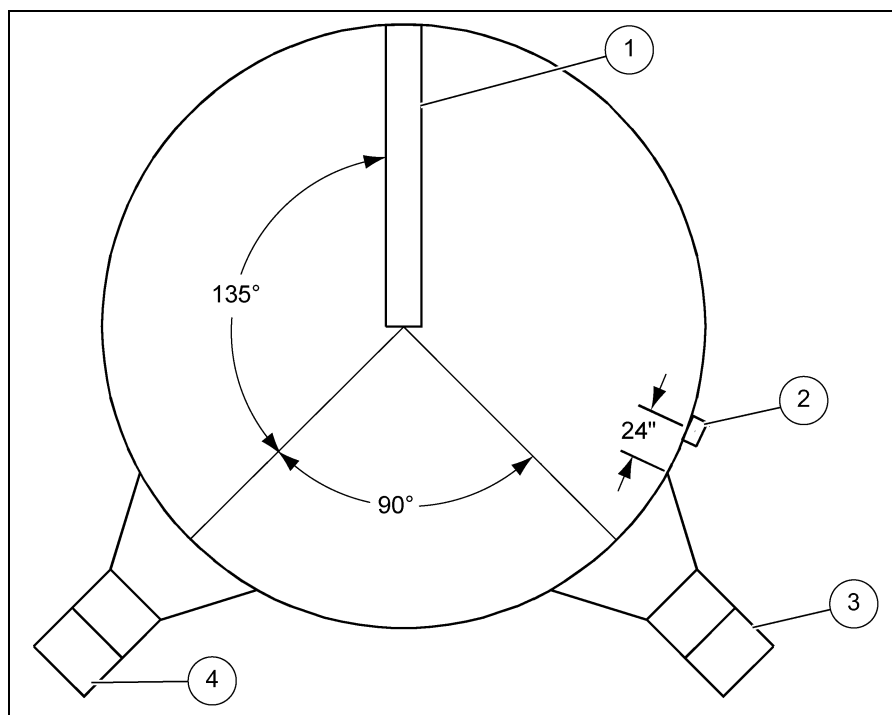

Figure 6A
IMPORTANT: When mounting two heaters on a bin it is imperative that they be situated as in Figure 6A. Plenum thermostat (2) must be to the right of primary heater (3) and primary heater (3) must be to the right of secondary heater (4).